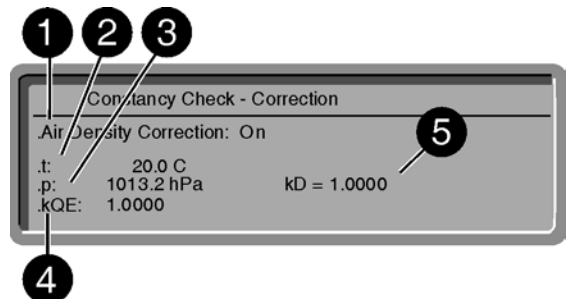

Figure 9-10: Correction menu for correction "on"
The correction menu will appear (Figure 9-10). The cursor is flashing on "Air density correction".
- If the display indicates "Air density correction: On" the correction function is enabled. The current values for correction are displayed (Figure 9-10). You can now change the values in this window. Otherwise press ESC to quit the menu.
If the correction function is enabled, you can enter the ambient temperature and atmospheric pressure in the correction menu (Figure 9-10).
Furthermore a second correction factor " k_{QE} " can be entered for the electron energy or the radiation quality of photons. Any value between 0.0001 and 2.000 can be entered for the correction factor " k_{QE} " (4, Figure 9-10).